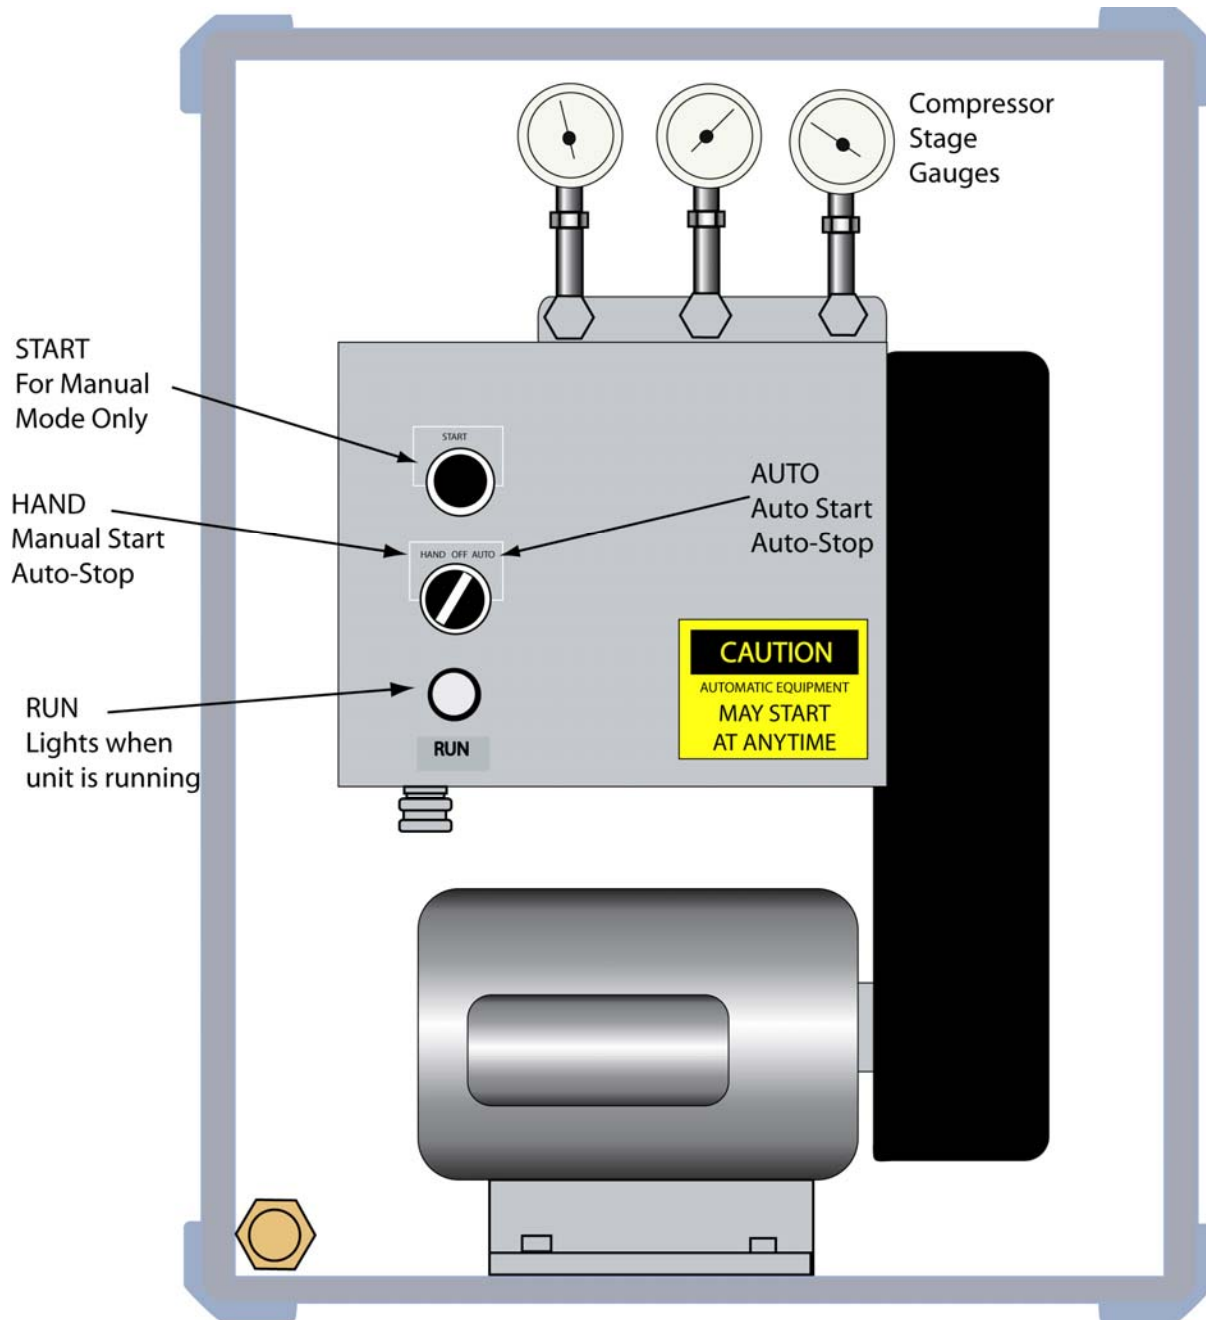

FIGURE 7-1: HV Booster
7.1 Setting Up the HV Booster (Refer to Figure 7-1)